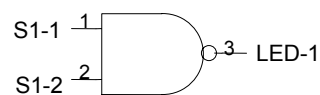

Fig.2 Two input NAND gate
1. Use one gate for each IC 7400 (NAND), 7402 (NOR), 7408 (AND), 7432 (OR), 7486 (XOR). Each has input pins, 1 and 2, and output pin 3.
2. Connect pin 1 to switch S1-1, pin 2 to switch S1-2, and pin 3 to LED-1 for every gate as shown in Fig 2 as an example for the NAND gate.